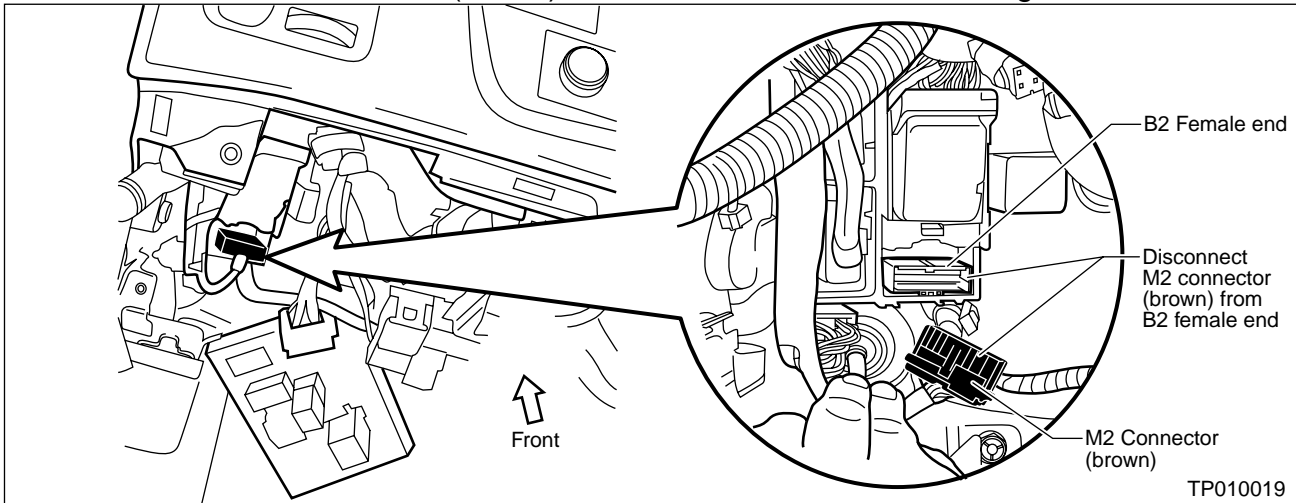

Figure 6
10. Disconnect the M2 connector (brown) from the B2 female end - see Figure 6.